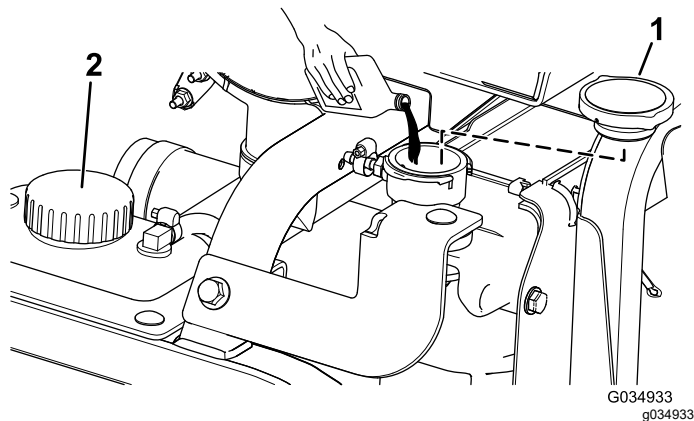

Figure 122
5. Fill the radiator with coolant until the coolant level even with the lip of the filler port (Figure 122).